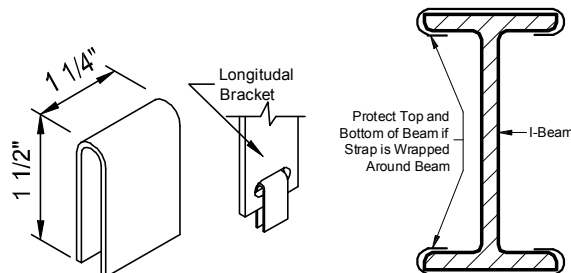

Figure 75. Determining anchor and stabilizer plate location
1. **Locate anchor.** Select a location for the anchor under the home but within six inches of the exterior wall (**Figure 75**). Avoid locations that will interfere with skirting.